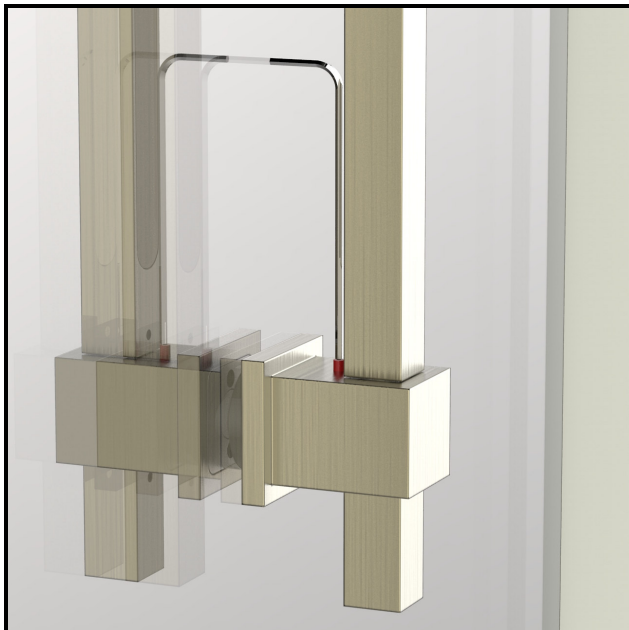

Figure 13
- With fixture seated, use hex key to secure set screw onto flat spot on post. Repeat process on top and bottom arm blocks (Figure 13).